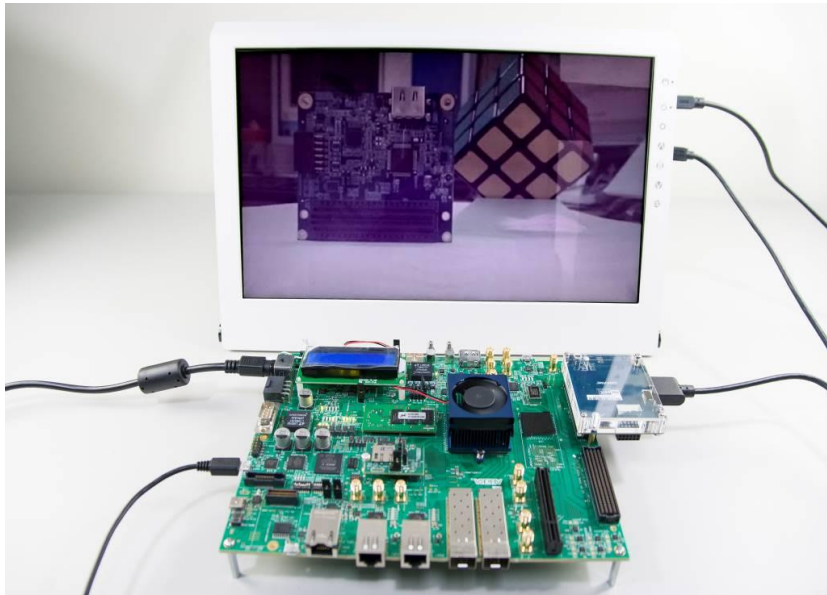

Figure 4-5 A10SoC demo hardware setting up
As shown in Figure 4-5
- Plug D8M-FMC onto A10SoC (FMC Port A), connect HDMI monitor to HDMI port see Figure 4-5